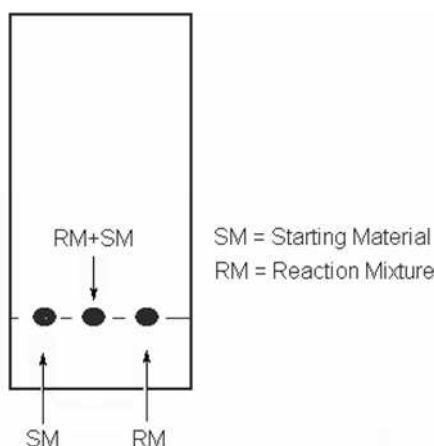

Figure 3.1. TLC plate
- ii) Draw a start line on the lower portion of TLC plate with a pencil (Fig. 3.1).
- iii) Apply starting material from the vial labelled as SM two times to the spot on the left and then two times to the spot in the middle of plate. To the same plate, apply the reaction mixture (RM) taken from the reaction flask once to the spot on the right and then once to the spot in the middle as shown in Figure 3.1 (use a different capillary tube for each sample).